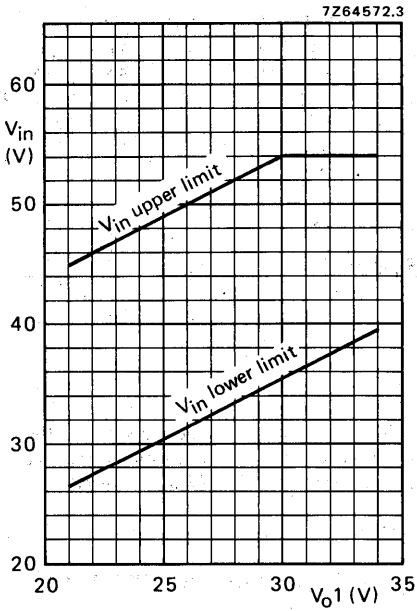

Fig. 4 Range of values for V_{o1} .
1. The V_{in} range depends on the value of V_{O1} (see Fig. 4).